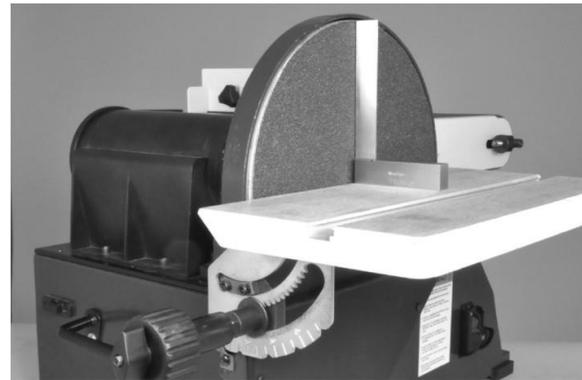

Figure 8 – Checking the disc's trueness.
1. To check the trueness of the 90 Deg. Angle of the disc sanding table, place a square or other measuring device on the table with the other end against the sanding disc. See Figure 8.